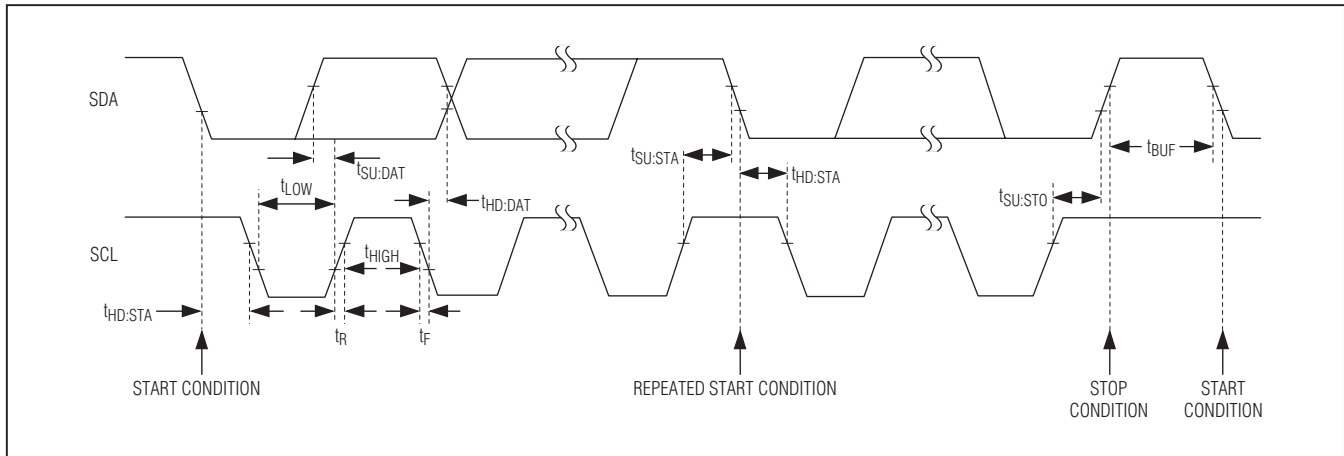

Figure 3. I²C Interface Timing Details
and an open-drain output. A pullup resistor is required on SDA. The SCL line operates only as an input. A pullup resistor is required on SCL if there are multiple masters on the 2-wire interface, or if the master in a single-master system has an open-drain SCL output. Each transmission consists of a START (S) condition sent by a master, followed by the device's 7-bit slave address plus a R/W bit, a register address byte, one or more data bytes, and finally a STOP (P) condition (Figure 3).